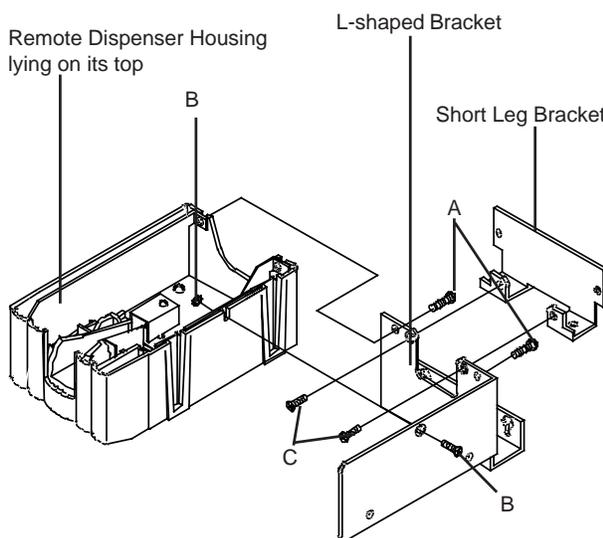

Figure 6 Remote Dispenser Housing Installation in Remote Locations
2. Lay the remote dispenser housing on its top. Place the L-shaped bracket to the left and back sides of the remote dispenser housing. Replace the two screws (1/2" x 8/32" pan head) removed in step 1 into the back of the housing to attach the bracket (See Figure 6, A).
3. Place one flat head screw (1/2" x 8/32") into the left side bottom of the L-shaped bracket. Secure it with the nut supplied. (See Figure 6, B).
4. Locate the remaining bracket and two flat head screws (1/2" x 8/32"). Line up the two holes on the short legs with the two holes on the remote dispenser housing. The long leg should point up. Screw in the two flat head screws to attach the bracket. (See Figure 6, C).